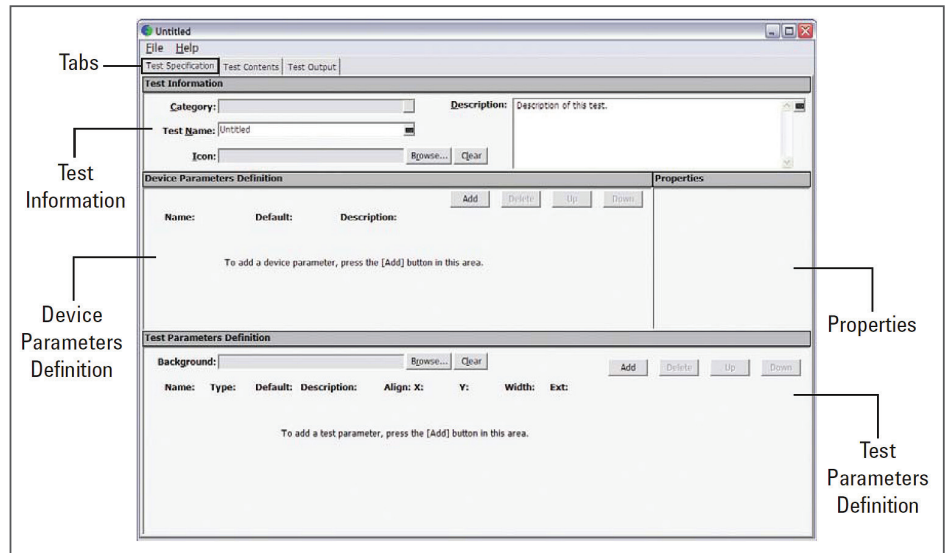

Figure 4. Test Definition Window showing the four main setup areas under the Test Specification Tab
2. In the Library pull-down menu, select "Define New Test." The test definition window appears, as shown in Figure 4.
When the Test Definition window opens, the Test Specification Tab is the default. Figure 4 also shows the four main setup areas under the Test Specification Tab: